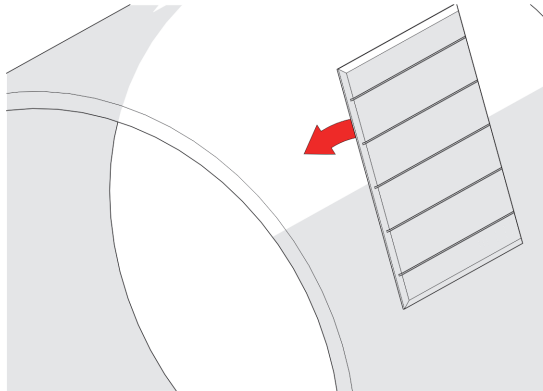

Figure 4-9 Place installation/removal mat
5. Place the installation/removal mat on the inspection surface (Figure 4-9 on page 174).